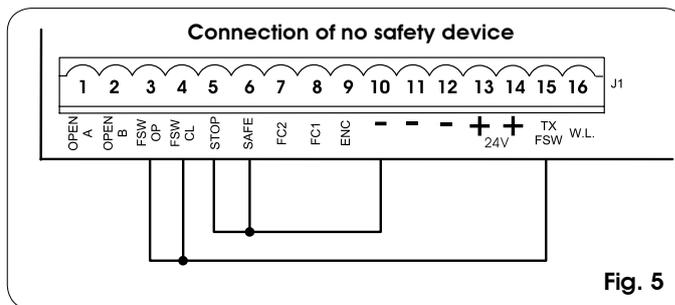

Fig. 5
N.B. If safety devices are not used, jumper connect the terminals as shown in fig. 5.
NB.: If no opening safety devices are connected, jumper connect inputs **FSW OP** and **-TX FSW** (fig. 5).
NB.: If no closing safety devices are connected, jumper connect terminals **FSW CL** and **-TX FSW** (fig. 5).
NB.: If edge safety devices are not connected, jumper connect the **SAFE** and **- inputs** (fig. 5).